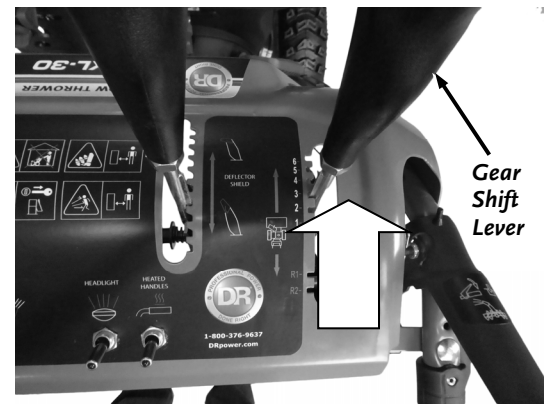

Figure 65
2. Shift to 6th gear (**Figure 65**).